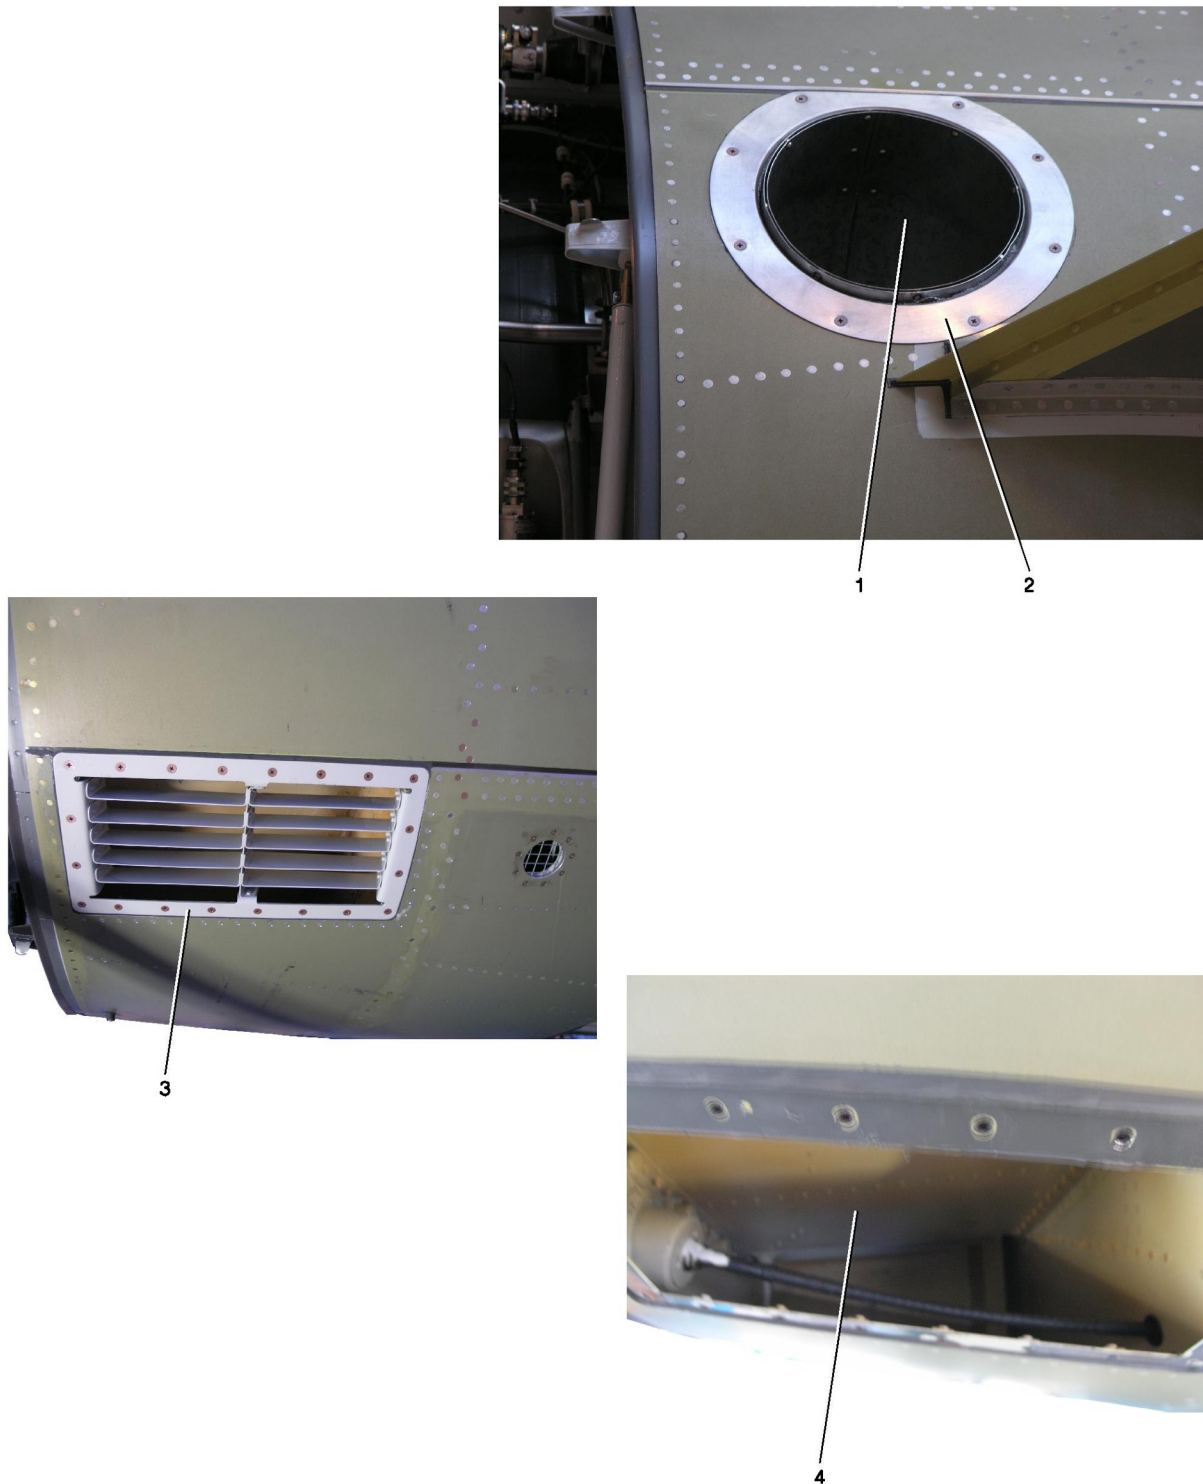

Figure 2: APU Area from the Outside
Refer to fig. 1 and fig. 2
- the the outlet (1) of the exhaust for condition of the visible section of the duct and the protective metal sheet (2) (fig. 2).
- condition of air inlet grid (3) (fig. 2).
D. Check of APU air inlet duct (4) (**fig. 2**):
- (1) Remove APU air inlet grid (3).
- (2) In the air inlet duct, clean the temporary protection with **P-D-680B**.
- (3) Visually inspect the air inlet duct:
- (4) Spray **temporary protection type II** all over the air inlet duct (Refer to **TASK 20-60-00-370-814**).
- (5) Install APU air inlet grid (3).